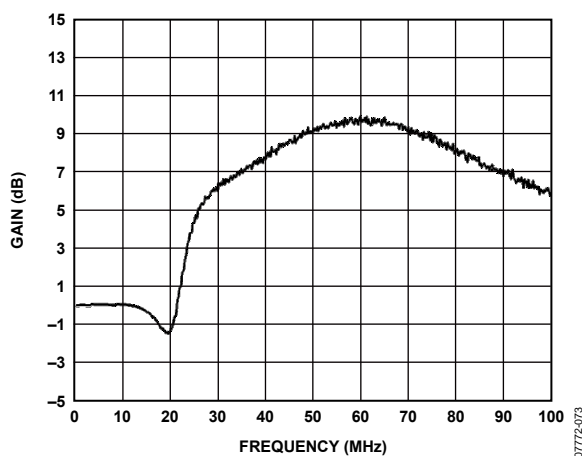
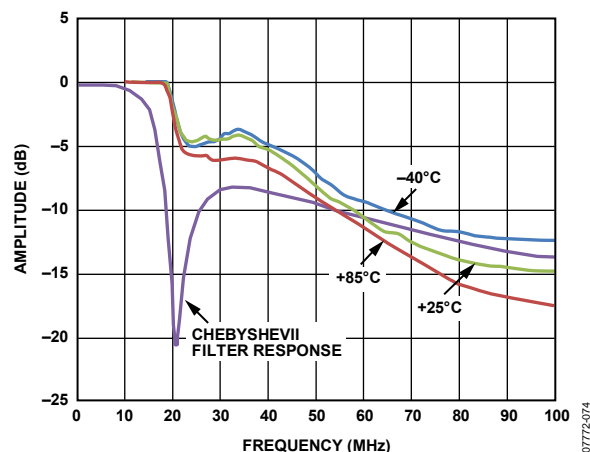

Figure 61. STF
Figure 62. Maximum Input Level for 3 dB Noise Degradation
Figure 61 shows the normalized STF of the AD9262 CT Σ - Δ converter. The figure shows out-of-band peaking beyond the band edge of the ADC. Within the 10 MHz band of interest, the STF is maximally flat with less than 0.1 dB of gain. Maximum peaking occurs at 60 MHz with 10 dB of gain. To put this into perspective, for a fixed input power, a 5 MHz in-band signal appears at -5 dBFS, a 25 MHz tone appears at -2 dBFS and 60 MHz tone at $+5$ dBFS. Because the maximum input to the ADC is -2 dBFS, large out-of-band signals can quickly saturate the system. This implies that, under these conditions, the digital outputs of the ADC no longer accurately represent the input. See the Overrange (OR) Condition section for details on over-range detection and recovery.
Figure 61 shows the gain profile of the AD9262, and this can be interpreted as the level at which the signal power should be scaled back to prevent an overload condition. This is the ultimate trip point and before this point is reached, the in-band noise (IBN) slowly degrades. As a result, it is recommended that the low-pass filter be designed to match the profile of Figure 62, which shows the maximum input signal for a 3 dB degradation of in-band noise. The input signal is attenuated to allow only 3 dB of noise degradation over frequency.
The noise performance is normalized to a -2 dBFS in-band signal. The AD9262 STF and NTF are flat within the band of interest and should result in almost no change in input level and IBN. Beyond the bandwidth of the AD9262, out-of-band peaking adds gain to the system, therefore requiring the input power to be scaled back to prevent in-band noise degradation. The input power is scaled back to a point where only 3 dB of noise degradation is allowed, therefore resulting in the response shown in Figure 62.
In addition to matching the profile of Figure 62, group delay and channel matching are important filter design criteria. Low tolerance components are highly recommended for improved channel matching, which translates to minimal degradation in image rejection for quadrature systems.